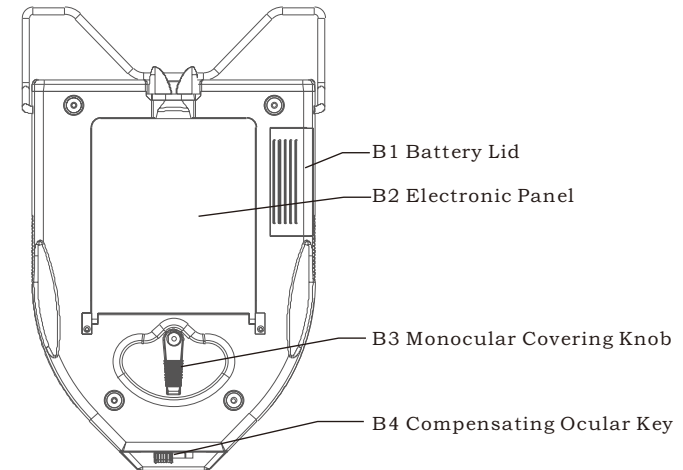

Fig.3
### 3.2 Description of Rear Panel(as shown in Fig.3)
a. When needing to measure the left or right pupillary distance, please turn the Monocular Covering Knob (as shown in Fig.3 B3) which can cover the other eye completely (as shown in Fig.8a and Fig.8b)